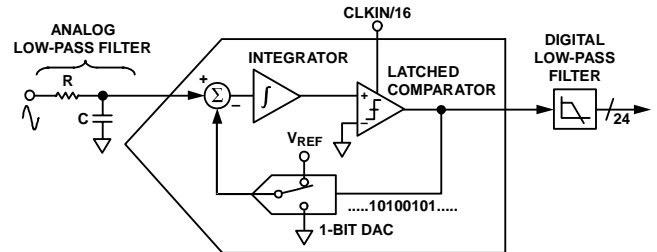
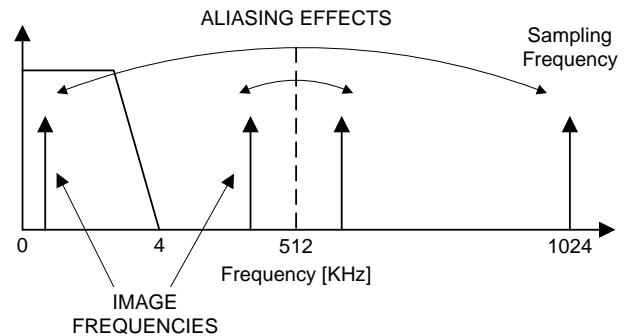

Figure 13. First-Order Σ - Δ ADC
Figure 15. Aliasing effects at ADE7854
For simplicity, the block diagram in Figure 13 shows a first-order Σ - Δ ADC. The converter is made up of the Σ - Δ modulator and the digital low-pass filter.
Figure 13 also shows an analog low-pass filter (RC) on the input to the ADC. This filter is placed outside the ADE7854 and its role is to prevent aliasing. Aliasing is an artifact of all sampled systems and is illustrated in Figure 15. Aliasing means that frequency components in the input signal to the ADC, which are higher than half the sampling rate of the ADC, appear in the sampled signal at a frequency below half the sampling rate. Frequency components (arrows shown in black) above half the sampling frequency (also known as the Nyquist frequency, i.e., 512 kHz) are imaged or folded back down below 512 kHz. This happens with all ADCs regardless of the architecture. In the example shown, only frequencies near the sampling frequency, i.e., 1.024MHz, move into the band of interest for metering, i.e., 40 Hz to 4 kHz. To attenuate the high frequency (near 1.024MHz) noise and prevent the distortion of the band of interest, a LPF (low-pass filter) has to be introduced. For